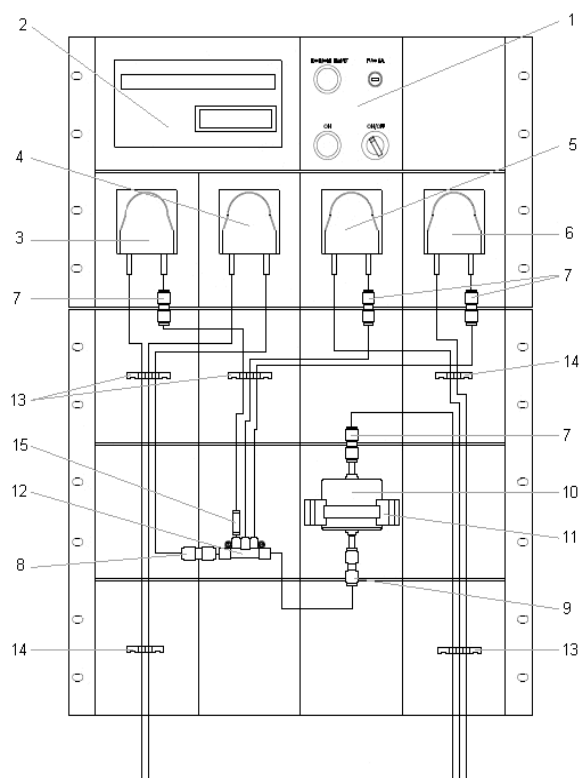

Figure 2 - Instruments and fittings
All instruments and fittings for measurement used with this SEIBOLD Online-Analyser EASY-Nickel are mounted on sub-plates attached to the 19-inch-rack inside the measurement cabinet. Sub-plates are arranged in four (4) horizontal and vertical rows, as shown in figure 2, „Instruments and fittings“.
This SEIBOLD Online-Analyser EASY-Nickel comprises the following components, instruments and fittings to be used in the measurement process. The numbers in the list below refer to the corresponding number in figure 2, „Instruments and fittings“.
The sample to be measured passes the photometer unit through a cuvette inside the photometer. The required hoses for conveying the sample is connected to the cuvette by means of two connection parts, one connector and a reduction fitting (see figure 2, „Instruments and fittings“).